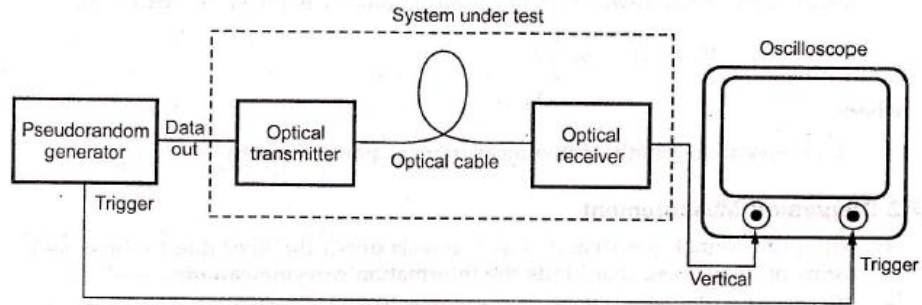

Fig. 8.7.3 Setup for Eye-diagram Measurement
- Eye pattern method is a measuring techniques for assessing the data handling ability of digital transmission system. The eye-pattern measurements are made in time domain and allow the effects of waveform distortion to observe on oscilloscope. Fig. 8.7.3 shows test setup for making eye diagram measurement.